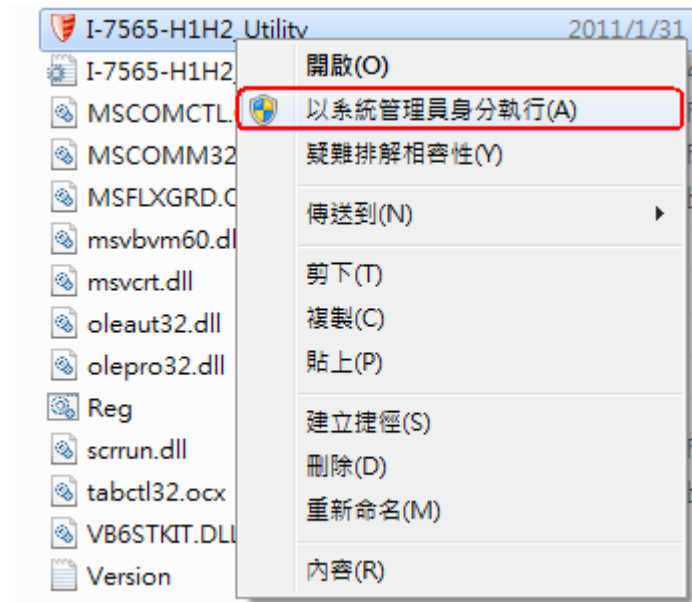
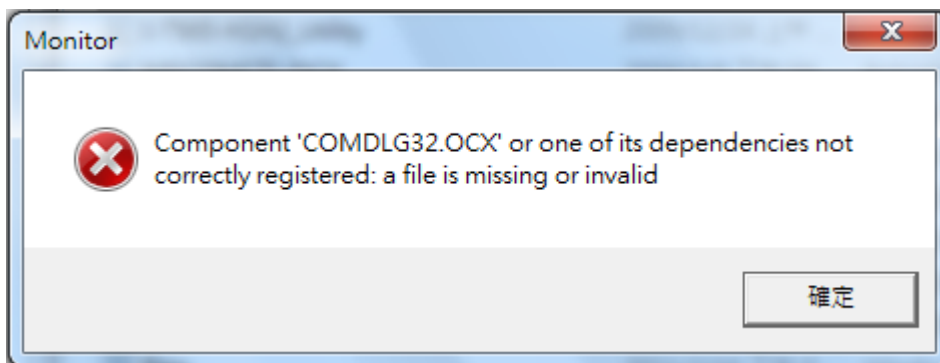

Fig 11-3 Execute by "System Administrator" Authority
Fig 11-4 Component not correctly registered
(3) When execute “I-7565-H1/H2 Utility” first, remember to execute it by “System Administrator” authority like Fig 11-3. Or there will be an error message – “Component not correctly registered” shown like Fig 11-4.